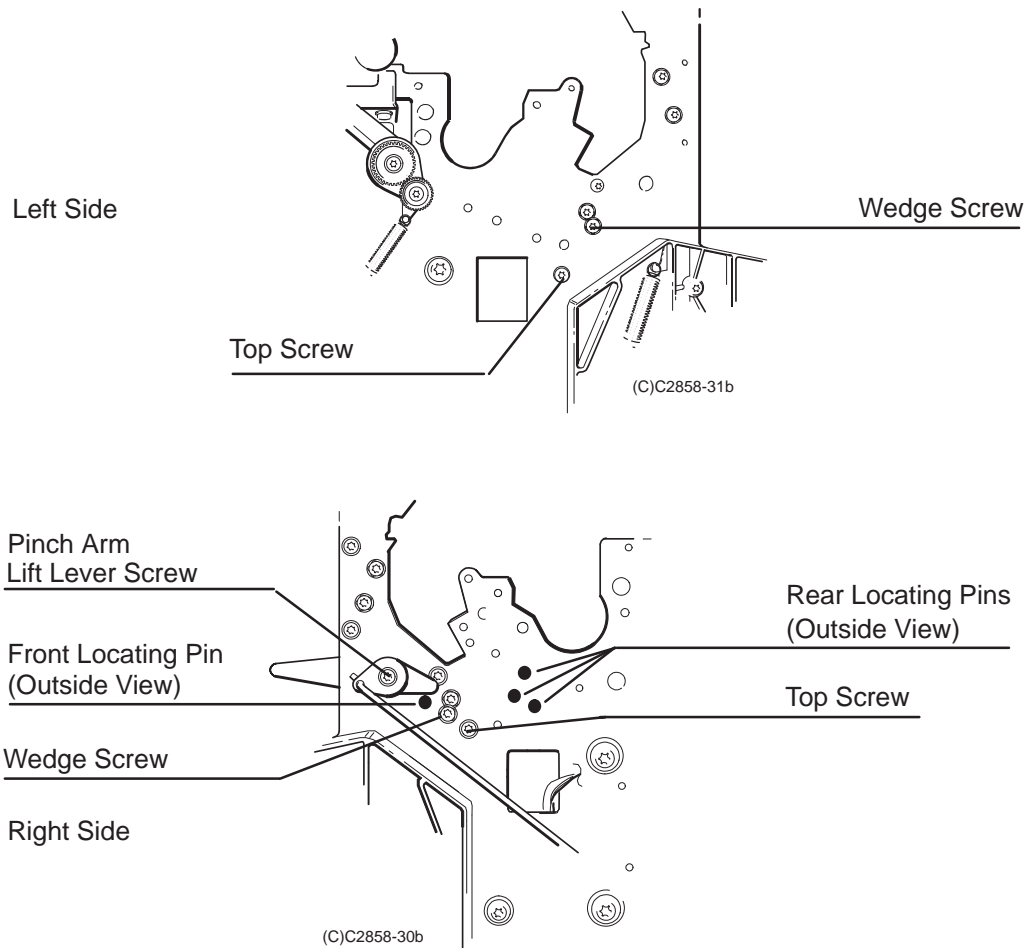

Figure 6-33.
7. Using a TORX T-15 screwdriver, loosen the wedge screws that attach the entry platen to the left and right sideplates until the screws are flush with the sideplates. See Figure 6-33.